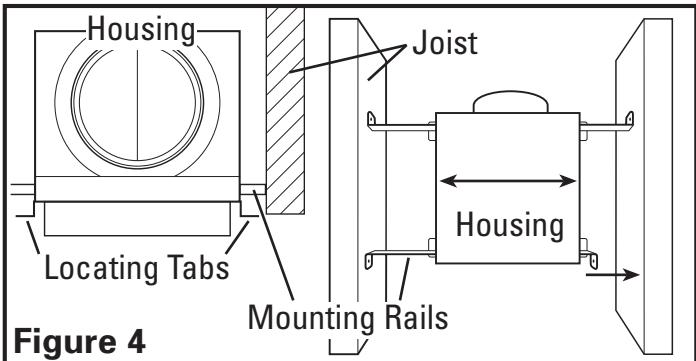
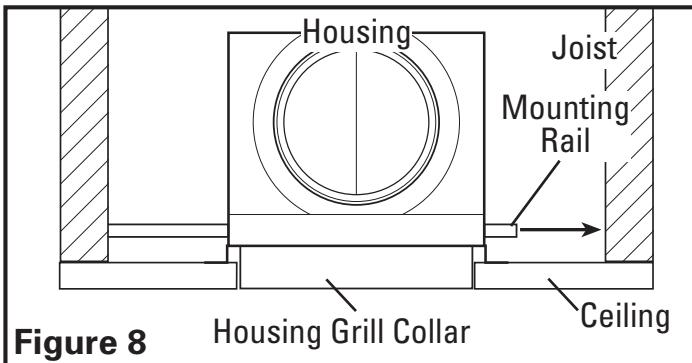

Figure 4
Figure 8
1. **Mounting Rail Installation:** Install the rails through the grill housing and position next to the joist. Using the locator tabs on the housing, line up tabs so that they are flush with the bottom of the joist. Secure the ends of the rails with the provided 1" screws to the joists and slide the housing into the final position (Figure 4).
Install the rails on the housing and position the housing grill collar in the previously cut hole so that it is flush with the finished ceiling (**Figure 8**). Secure the ends of the rails to the joists (**Figure 4**).